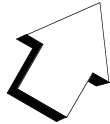

Fig. 10 Operator position
- 12) stand in front of the machine as shown in (**Fig. 10** on page 38), and check that the spiral kneading tool (**ref. 4 - Fig. 6**) is turning clockwise.
The working position normally occupied by the operator for short periods of time is shown in Fig. 10 on page 38.